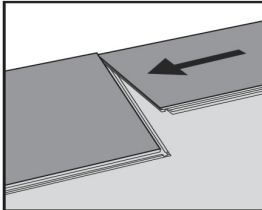
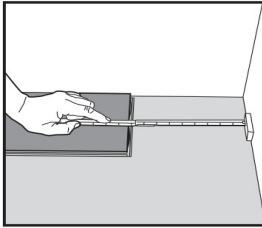

Figure 2.
Figure 4.
- iv. Begin installing the first row by laying a board down flat on the subfloor. (Figure 4) Align the end of the second board with the first and snap end-locking system together by simply pushing it straight down on top of the first board. Repeat this step to install the remaining boards in the first row. Cut the last board in the row to the remaining length or use an end board that was supplied in the carton. If leftover piece is 12" or longer, use it to begin the next row. (Figures 2 and 3)